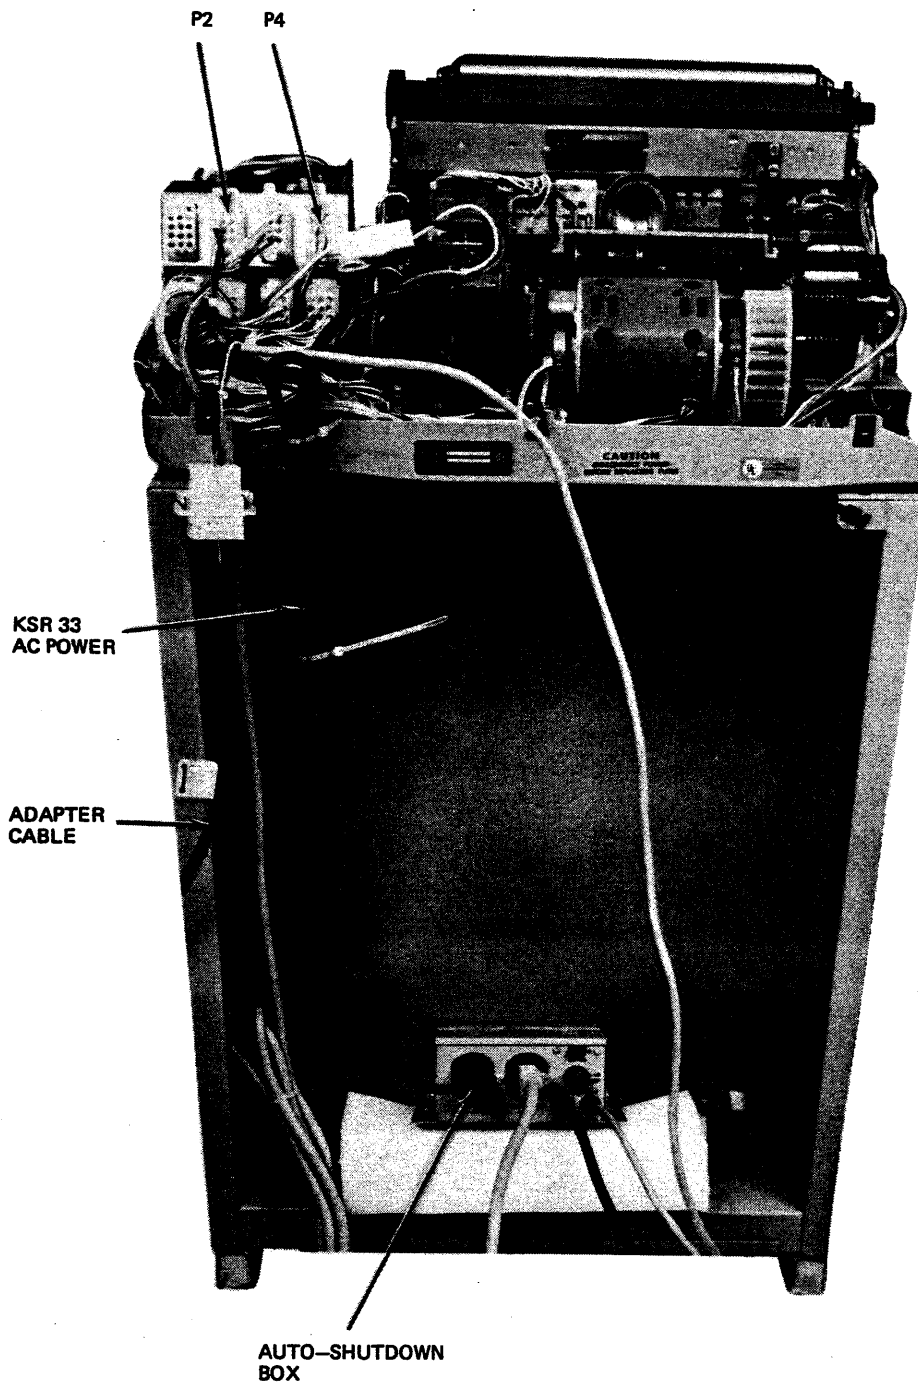

Figure 3-43 Auto-Shutdown Installation
3. Place the auto-shutdown box in the rear area of the KSR-33 stand (see Figure 3-43). Fasten the auto-shutdown box to the stand with the hardware supplied.